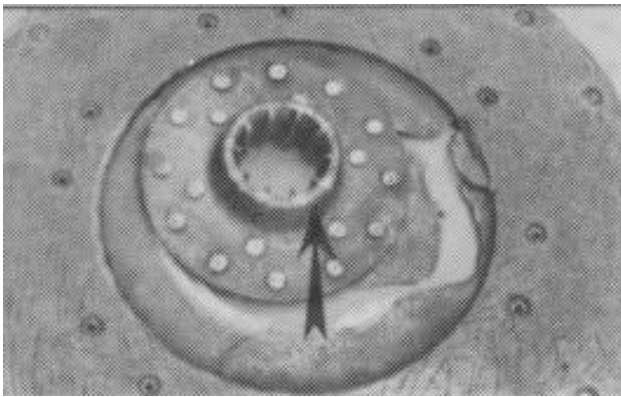

**Figure 26 Cracked Hub**
4. Driven disc to release retainer interference is the result of incorrect adjustment. The linkage was adjusted to compensate for wear rather than the internal adjusting ring. This can cause cracked hubs in the rear disc and a cracked pressure plate from the heat generated (Figure 26).